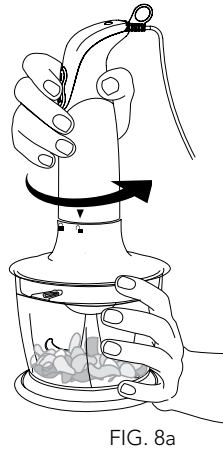

FIG. 8a
6. During processing, you can adjust the speed by selecting the LOW (I) or HIGH (II) speed button.
7. To stop the THUNDERSTICK™ take your fingers off the switch button (I) or (II). Unplug the appliance from the power outlet.
8. Turn the motor appliance counter-clockwise until the arrow mark on the motor appliance is aligned with the unlocked symbol (⤵) on the chopper lid, as illustrated in Fig. 8a. Detach the motor appliance from the lid as illustrated in Fig. 8b. Turn the lid in a counter-clockwise direction as illustrated in Fig. 8c to remove from the chopper bowl as shown in Fig. 8d.